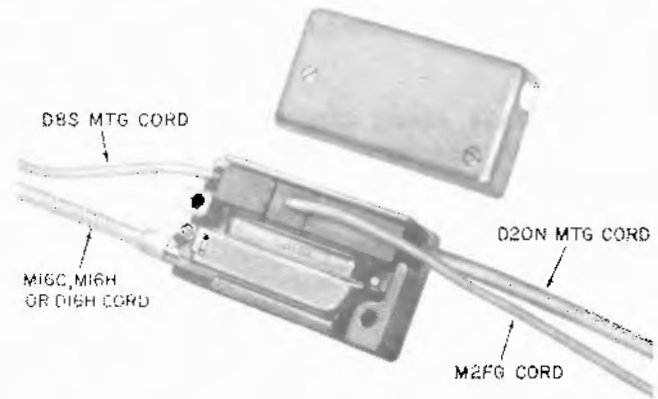

Fig. 6—223-Type Adapter
**2.17** The 223-type adapter (Fig. 6) interconnects the 680-type transmitter, the 108-type loudspeaker set, the 85B1 power unit and certain codes of telephone sets. The adapter consists of a plastic housing and a cord with a 50-pin connector on one end and either spade-tipped terminations or a post-type connector on the other end. The connector end accepts plugs from the transmitter and loudspeaker set and the plug from an M2FG cord which connects to the 85B1 power unit. The cord from the adapter connects to the telephone set. Three codes of the 223-type adapter are described as follows.